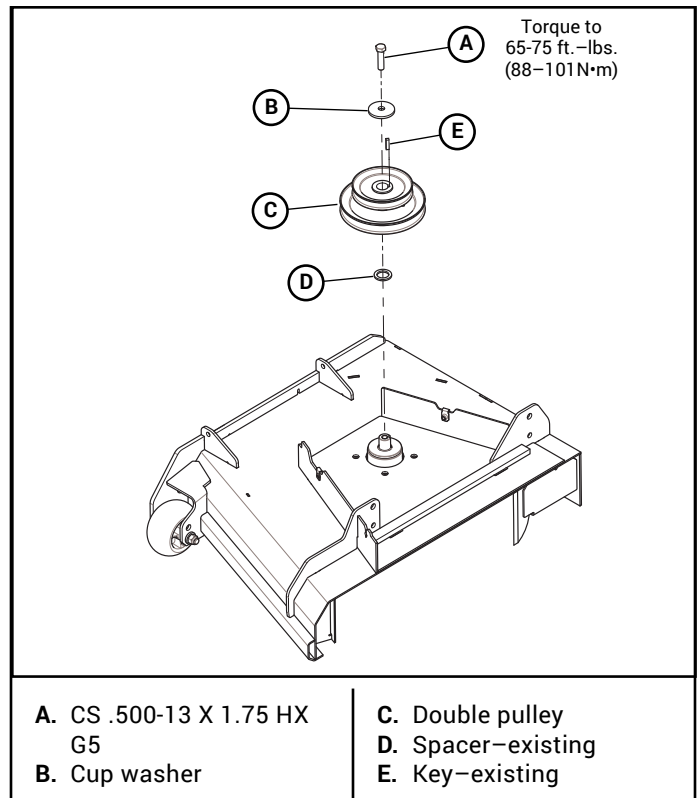

Figure 3-34
- Replace the pulley with the double pulley and place the new cup washer between the head of the new bolt and the drive pulley. Thread the cup washer and bolt assembly into the spindle shaft. Torque the bolt to 65–75 ft.-lbs (88–101N•m). Figure 3-34